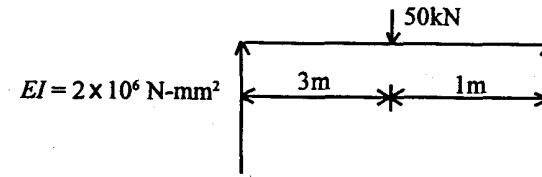

Fig.2
8. (a) Using Castigliano's theorem, obtain the deflection under a single concentrated load applied at simply-supported beam shown in Fig. 2. 12